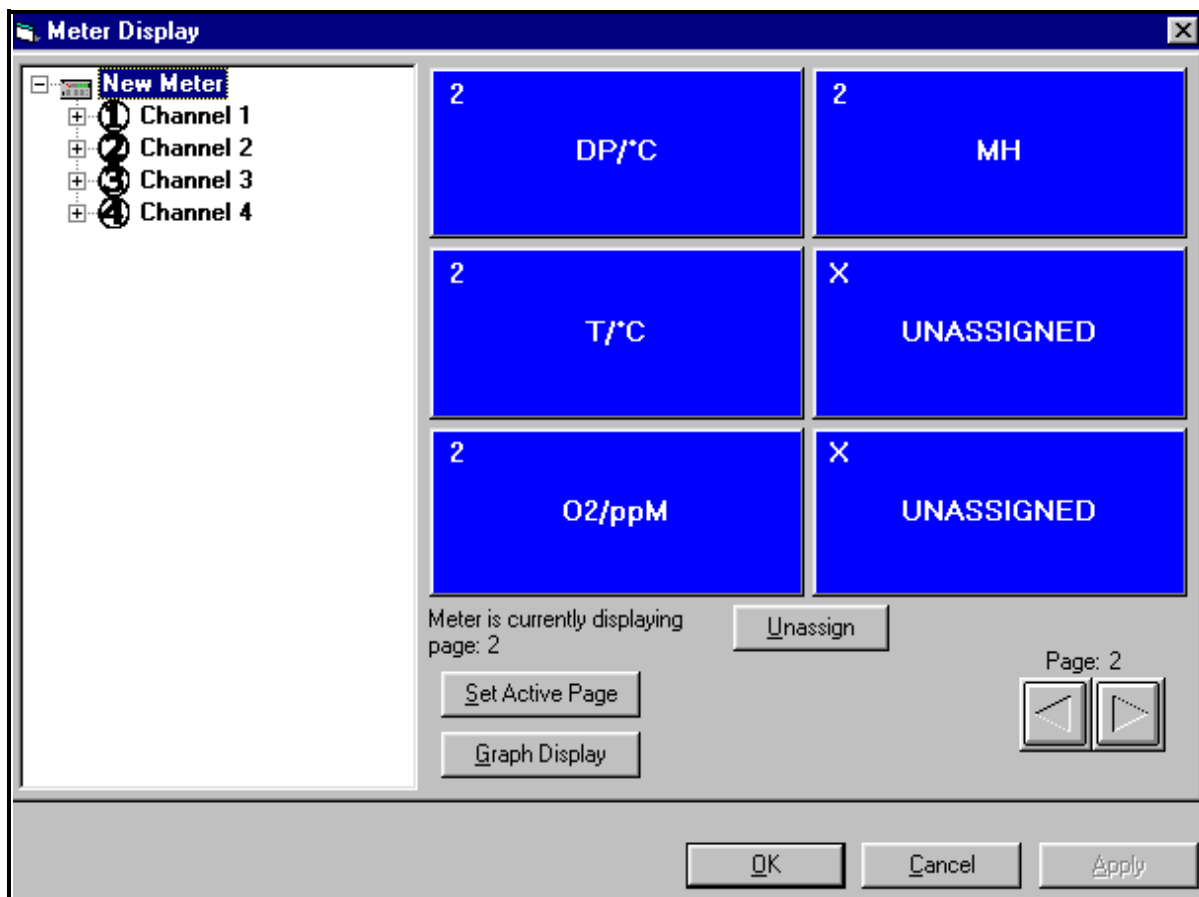
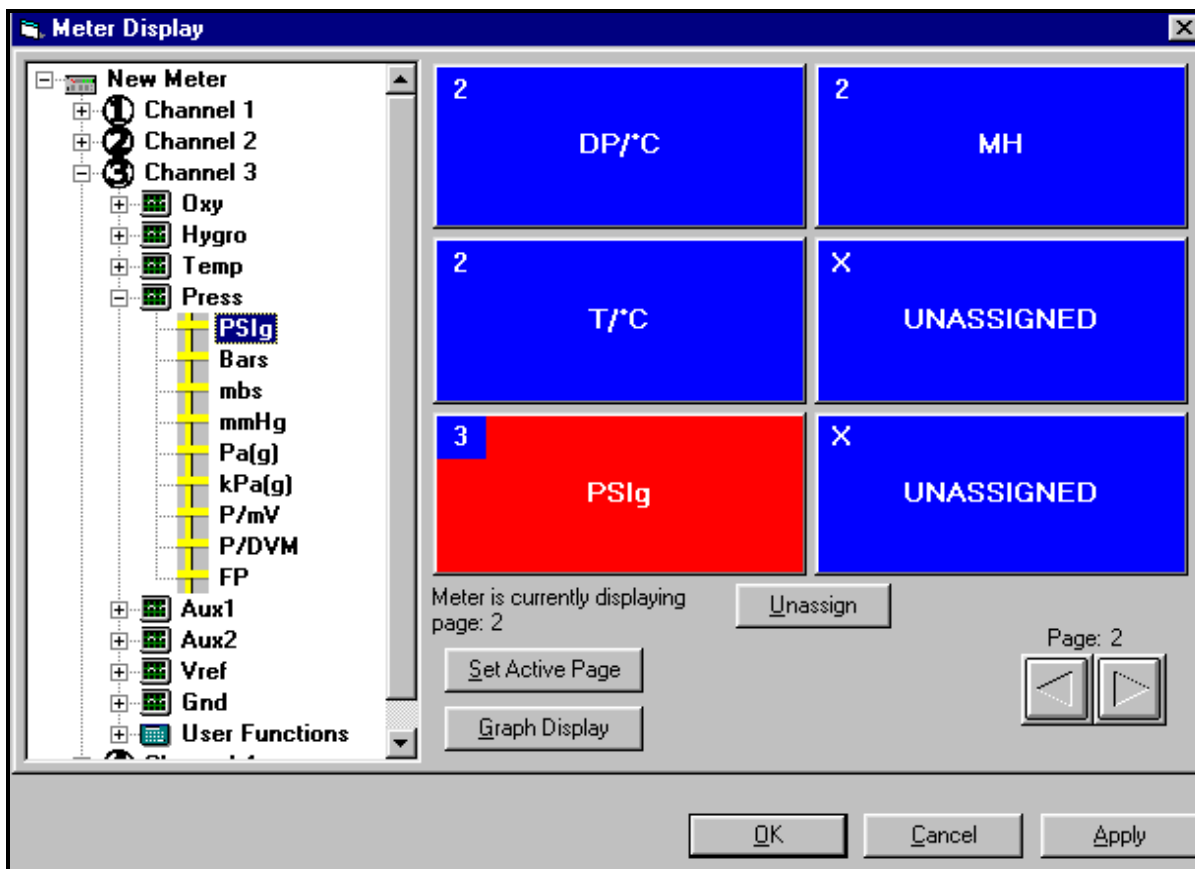

Figure 48: The Meter Display Window
Figure 49: Matrix Display After Programming
4. Double-clicking on any page opens the “Meter Display” window, shown in Figure 48. Each individual blue window shows the mode and unit measured in the corresponding window on the Series 1 page, with the assigned channel number in the upper left corner. A line below indicates which page the meter is currently displaying.
Figure 49 shows a typical change on the PC screen from O2/ppm (shown in Figure 48 on page 86) to PSIg.